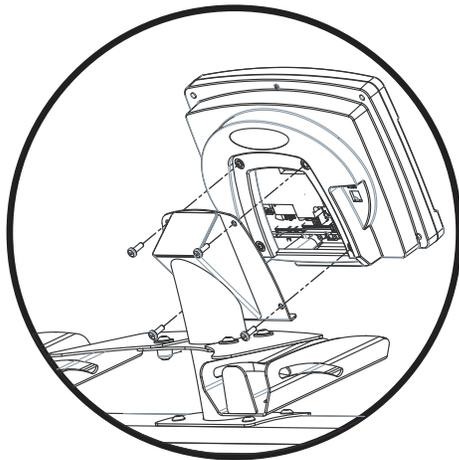

Figure 5A
- 5-3 Secure console with hardware item #3 (figure 5A, 5B)